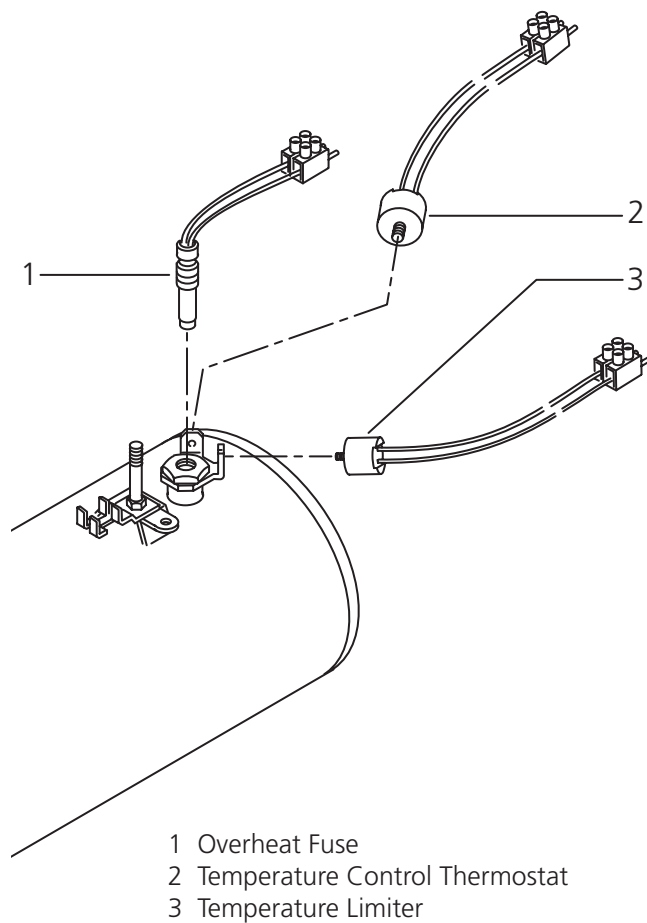

Figure 36: Temperature Control Elements
2. Turn counterclockwise to remove overheat fuse (item 1, Fig. 36) from dry-well.
2. Turn counterclockwise to remove temperature control thermostat (item 2, Fig. 36).
2. Turn counterclockwise to remove temperature limiter (item 3, Fig. 36).